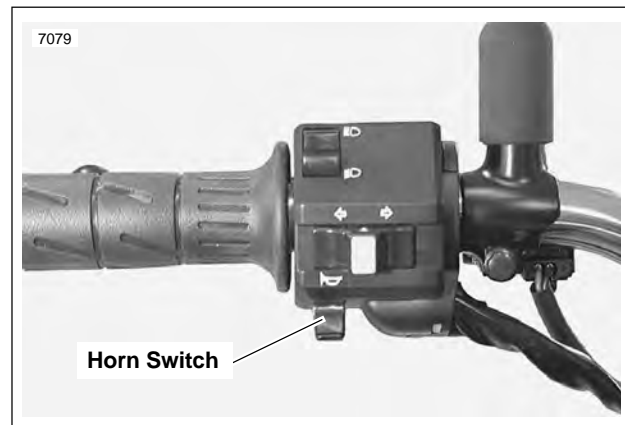

Figure 7-79. Horn Switch Location
3. See Figure 7-79. Depress horn switch and observe voltmeter reading.